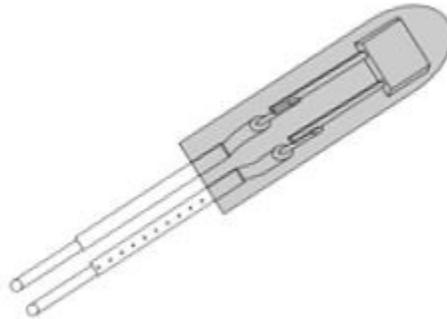

Figure 1. Conceptual Drawing of a Temperature Sensor in a Probe
A temperature sensor probe is a temperature sensor integrated circuit (IC) encapsulated inside a case with wires that extend out to a receiver circuit. The case of the probe protects the temperature sensor IC from outside elements such as moisture, corrosive materials, and mechanical wear and tear. Figure 1 shows a conceptual drawing of a temperature sensor integrated inside a metal case.